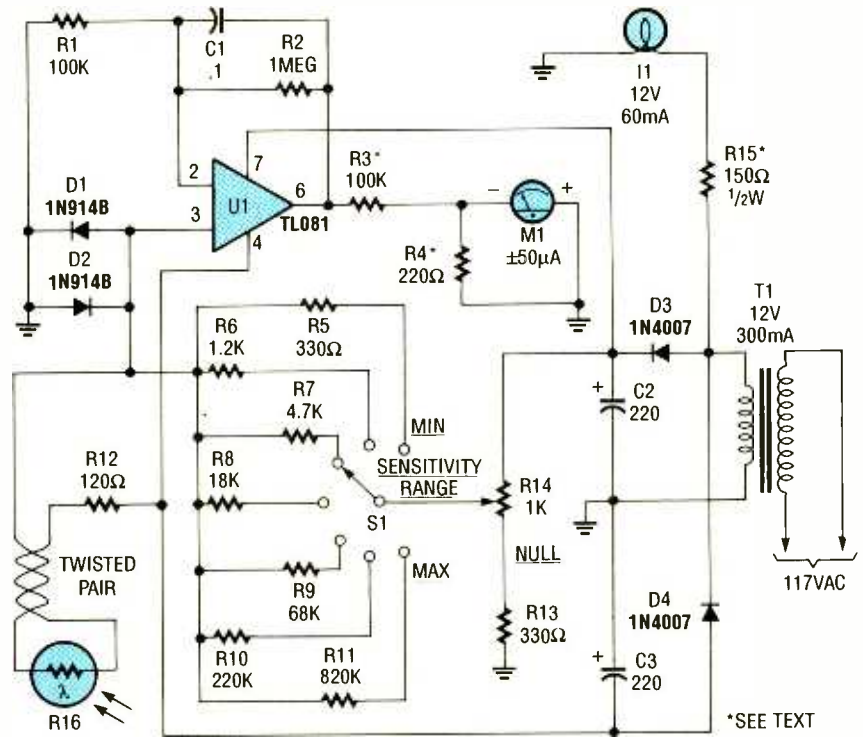

Fig. 1. As revealed by this schematic diagram, the Enlarging Light Meter is nothing more than a comparator, built around a TL081 op-amp.
**Circuit Description.** A schematic diagram for the Enlarging Light Meter is shown in Fig. 1. Meter M1, a  $\pm 50\mu\text{A}$  zero center D'Arsonval meter movement is driven by U1, a TL081 FET op-amp, through R3. The gain of U1 is set at 11 by R1 and R2, while capacitor C1
**Building the Circuit.** There is nothing critical about the construction of the Enlarging Light Meter. Most of the circuit was assembled on a couple of terminal strips, using point-to-point wiring techniques. Wire the circuit together using Fig. 1 as a guide. Note that R16 (the LDR), S1, R14, and M1 are not mounted with the other circuit elements. The LDR (which we'll get to a bit later) will be mounted